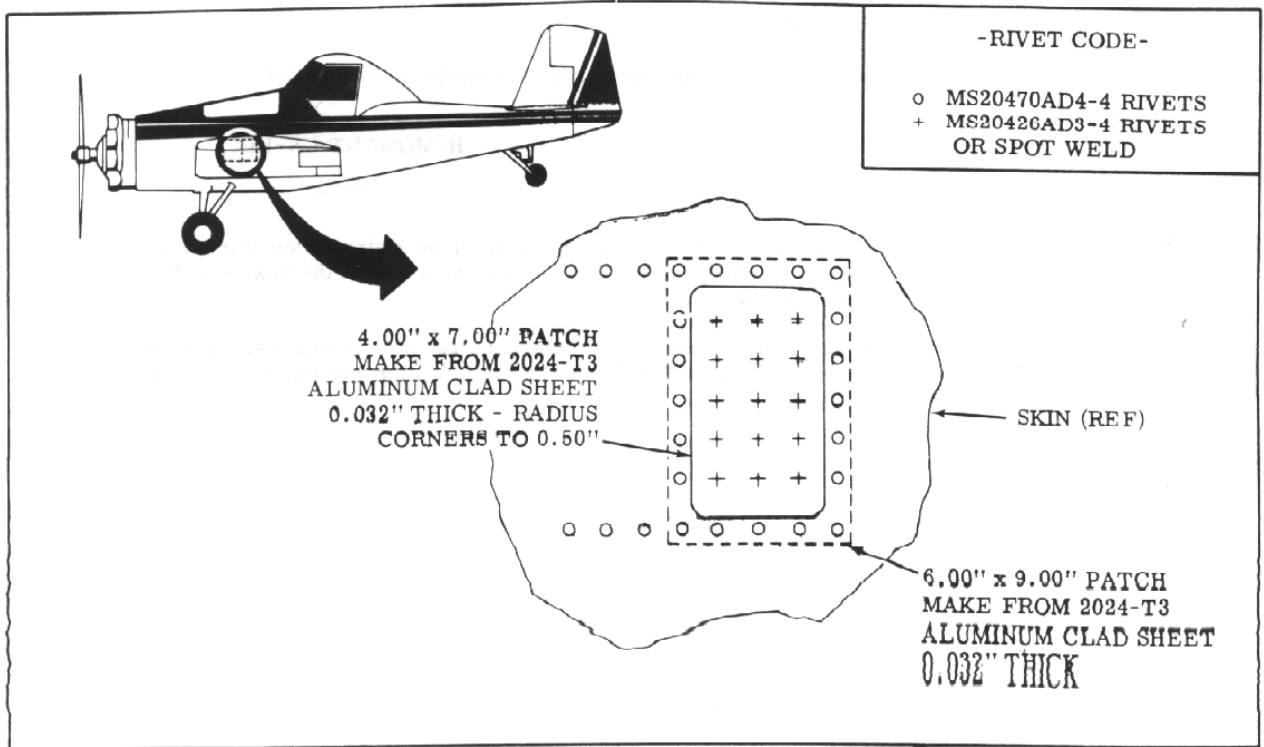

Figure 7.
37. Fabricate two (2) patches (6.00 inch x 9.00 inch and 4.00 inch x 7.00 inch) from 0.032, 2024-T3 aluminum clad sheet (see Figure 7).
38. Install patches, fabricated in step 37., on left forward fuselage side skin (see Figure 7).